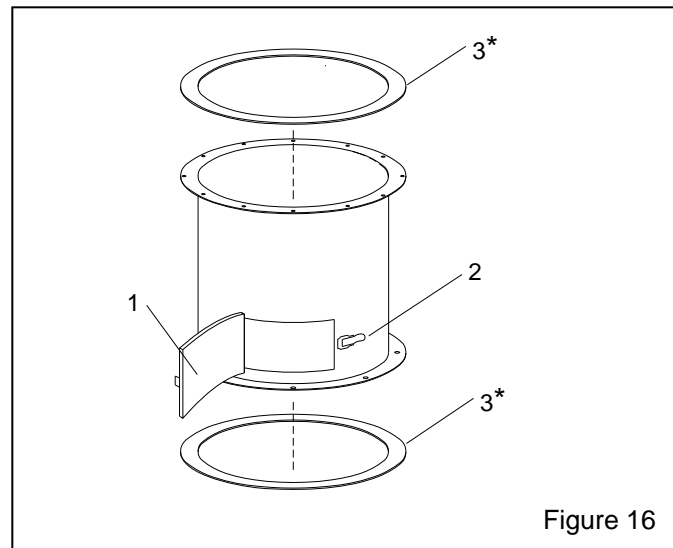

Figure 16
14.4 Storage Hopper, Figure 16